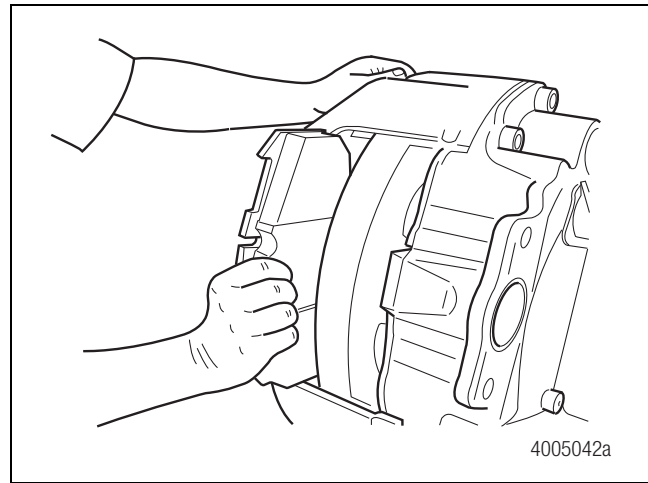

Figure 5.24
2. Slide the caliper OUTWARD. Install the outboard pad and spring into the outboard side of the caliper. Figure 5.24.
3. Slide the caliper INWARD. Install the inboard pad and spring into the inboard side of the caliper. Figure 5.24.